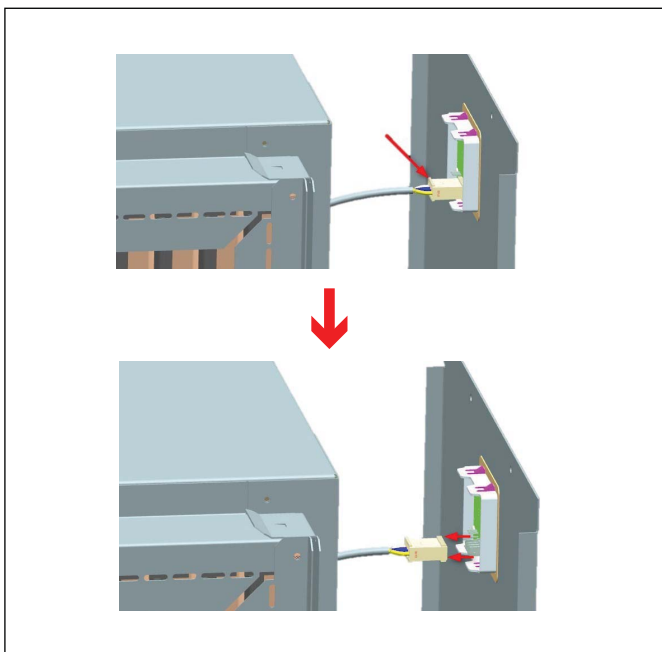

Figure 11
9. Unplug the unit display plug (figure 11). For SM Units ONLY.